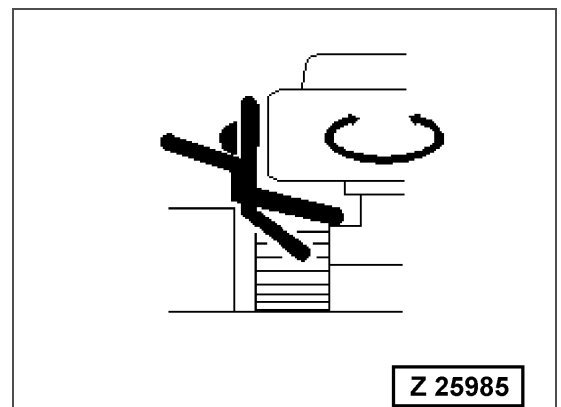

Fig. 3-23
- If there is an area to the rear of the machine which cannot be seen, position a signal person. Take special care not to hit other machines, objects or people when turning or swinging the machine (Fig. 3-23)